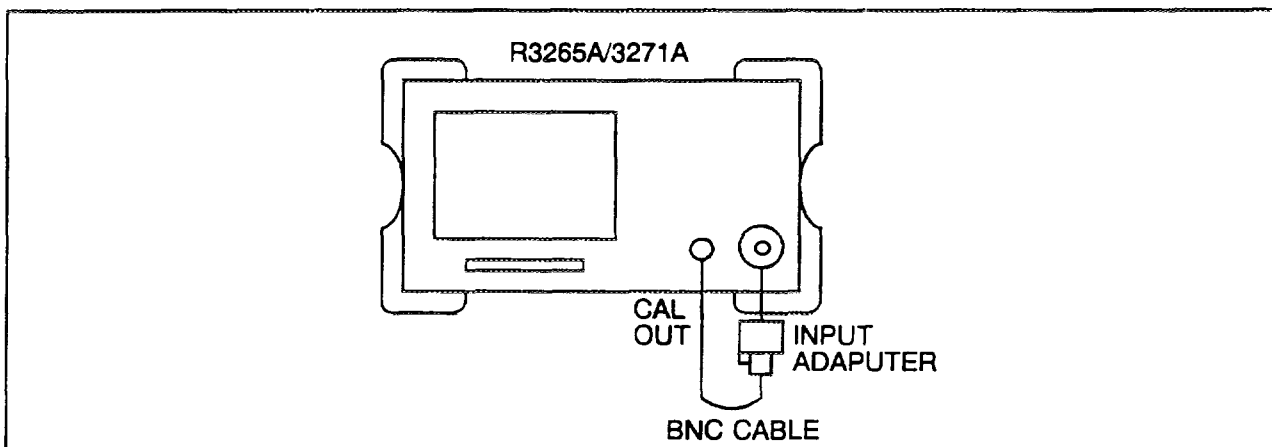

Figure 4-8 Resolution BW Switching Uncertainty Test Setup
(1) Connect the R3265A/3271A CALOUT to the INPUT 50 Ω as shown in Figure 4-8.
(2) Press the **PRESET** key, the **SHIFT** key and the **CAL** **7** key **EACH** **ITEM** **RBW** **SWITCH**.